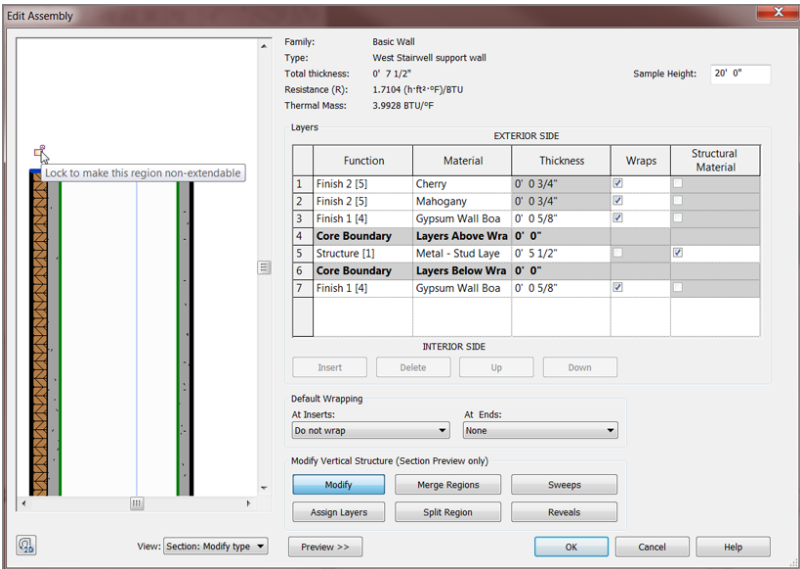

FIGURE 16.8: Unlocking the plywood to enable independent movement after the wall is placed into the model
7. Pan to the top of the wall in the display, as shown in Figure 16.8.